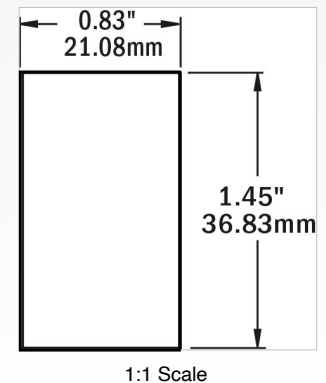

Figure 1, Cutout Template
2. Determine where on the dash you would like to install your switch. Some UTVs come with predetermined switch cutout templates already built into the dash. If your vehicle does not have cutout templates built into the dash, cut out the template in Figure 1.
4. Use a Dremel or heated razor blade to cut a hole through the dash using the template in Figure 1 or the template already built into the dash.